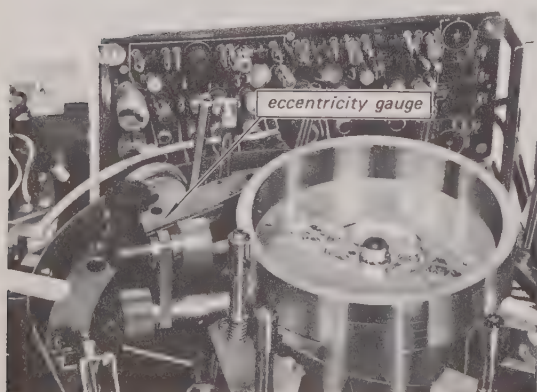
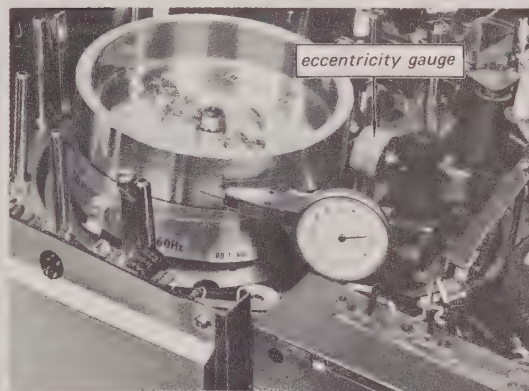

Fig. 5-2. Installation of the eccentricity gauge
Fig. 5-3. Operation of the eccentricity gauge
5. Install the Eccentricity Gauge as shown in Fig. 5-2 by threading the lower part of the fixture into the threaded hole on the lower Head-Drum Assembly near the entrance guide, as shown in Fig. 5-3. Tighten the knurled parts securely.